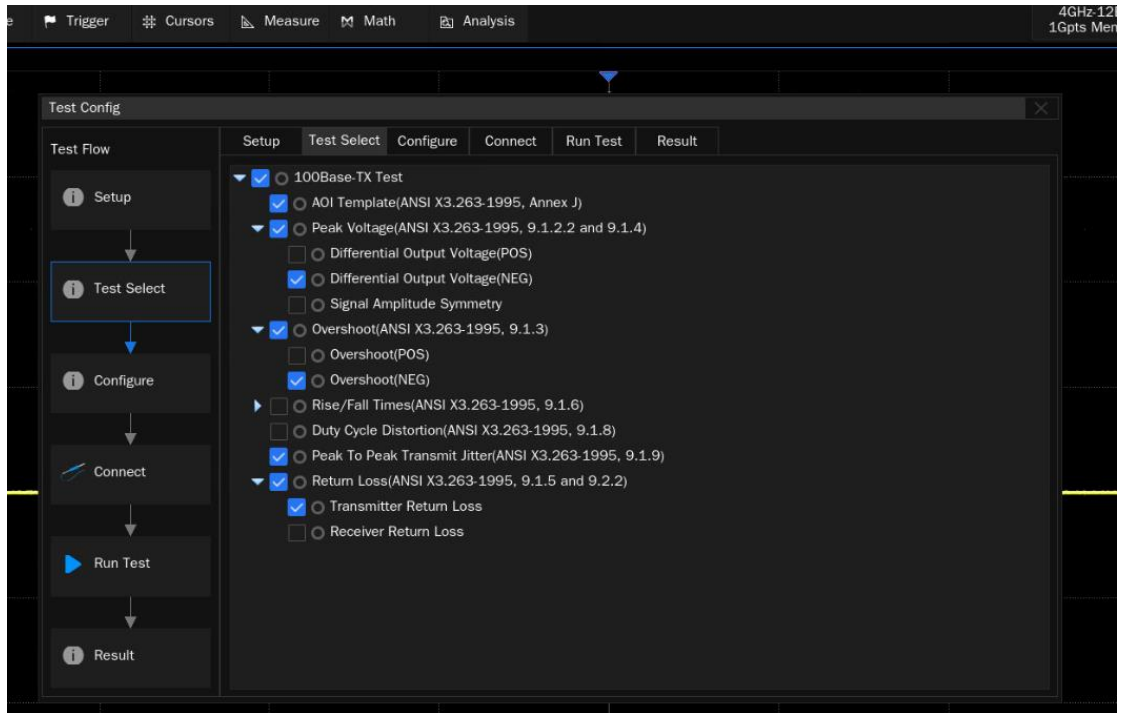

Figure 4-3 Test Item Selection Window
- Select the items to be tested in this column, as shown in Figure 4-3.